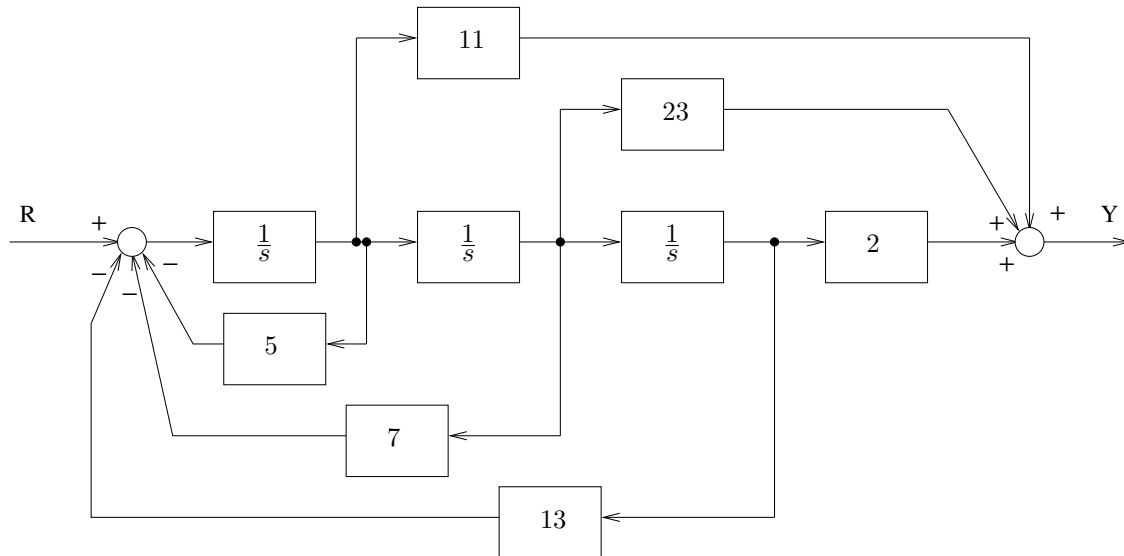

Figure 1: Block diagram for Problem 6.
6. Given the block diagram of Figure 1, determine the transfer function  $Y/R$ .